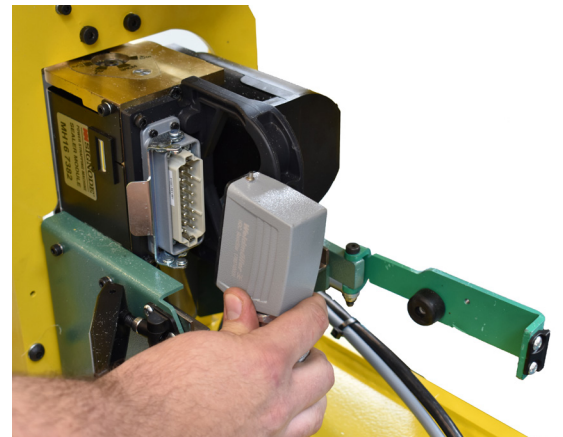

Figure 4-7: Sealer Module Electrical Quick-connect Cable
2. Remove Electrical Quick-connect Cable from Sealer Module (**Figure 4-7**).